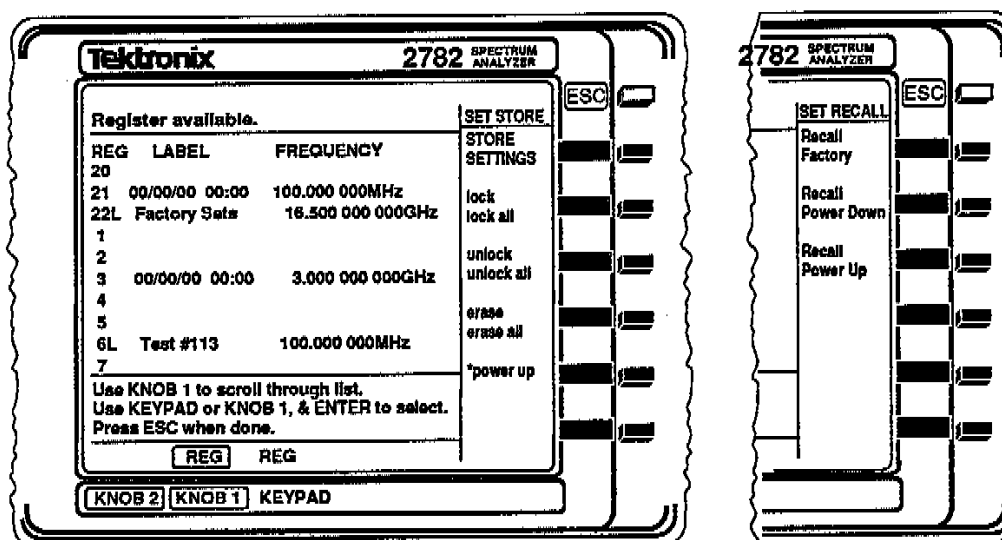

Figure 2-9. Settings Store and Recall Register Lists.
- a. Press the SETTINGS STORE key to bring up the SET STORE menu and the settings register; see Figure 2-9.
- (1) Scroll to register 4 with KNOB 1.
- (2) Register 4 is now highlighted.